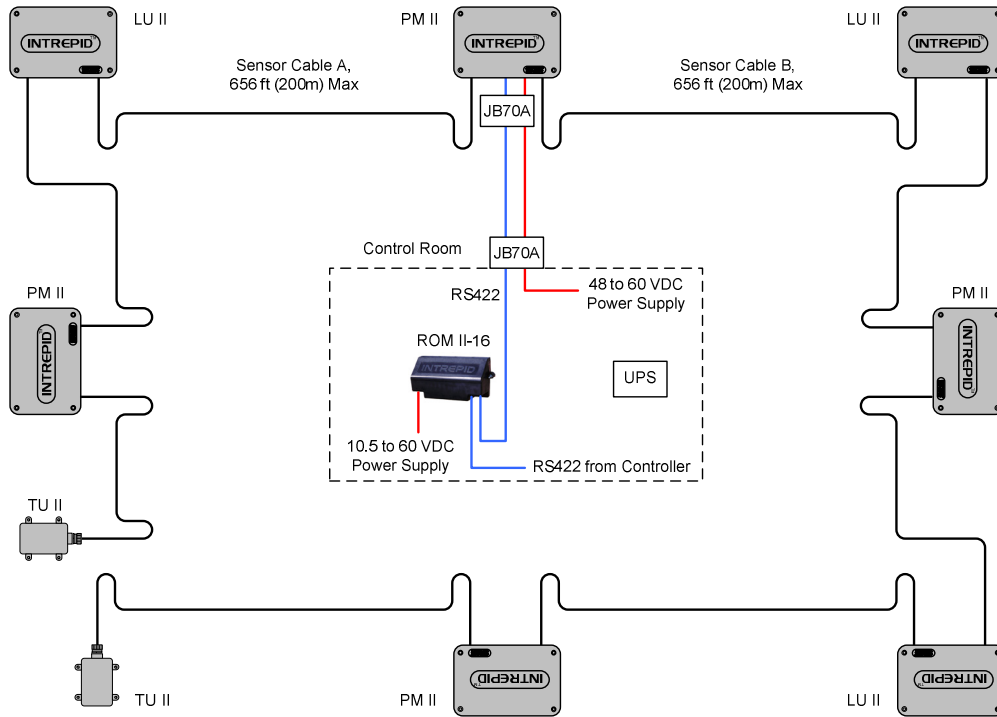

Figure 3.2 – Multiple PM II System using Relays
Figure 3.2 shows a four (4) PM II system using relays (ROM II-16) for alarm annunciation. The typical controllers for this type of configuration would be the RCM II or the CM II since only relay output are being used. This configuration can be turned into sixteen (16) 100 meter (328 ft.) zones. If smaller zones are required another ROM II can be added. A UPS or batteries are recommended for backup power.